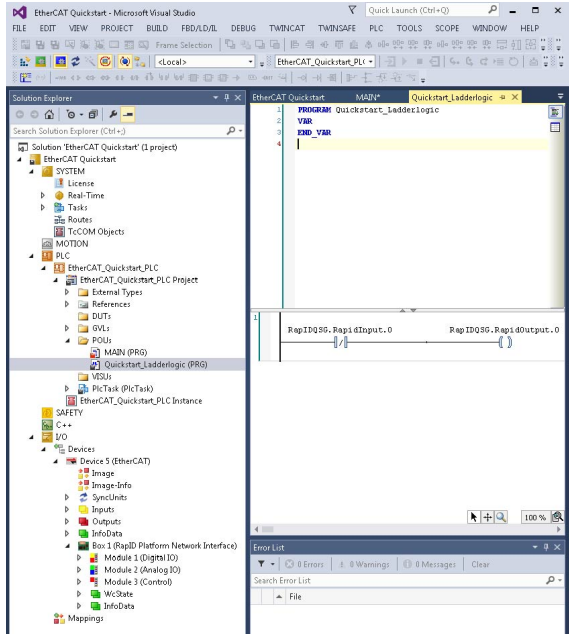

Figure 51. RapID Input and Output
7. Within the **Solution Explorer** pane, navigate to **I/O < Device 5 (EtherCAT) < Box 1 (RapID Platform Network Interface)**, if it is not already expanded (see Figure 51).